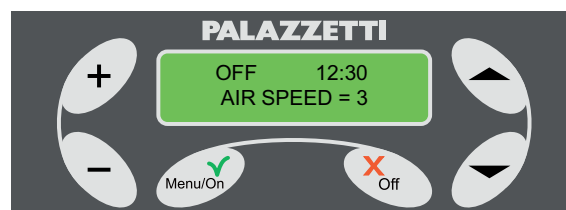

Fig. 1.6.1
- 1) hold the Off button down for at least three seconds. The display will show a multiple choice menu (Fig. 1.6.1)